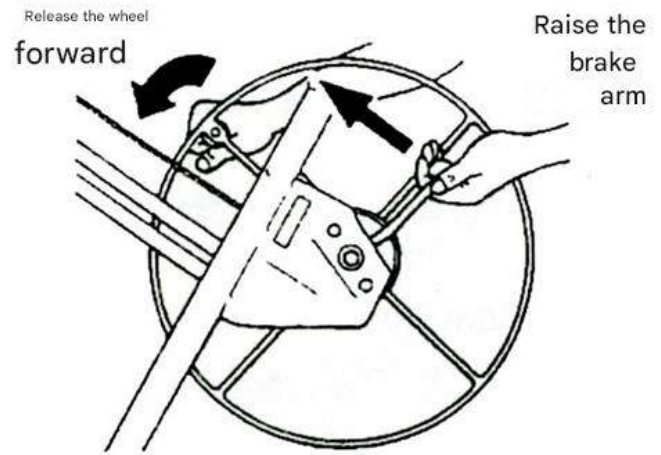

Figure 2
- a. Hold the winch and brake arm as shown in figure 2. Gently rotate the winch forward while lifting the brake lever to release it.